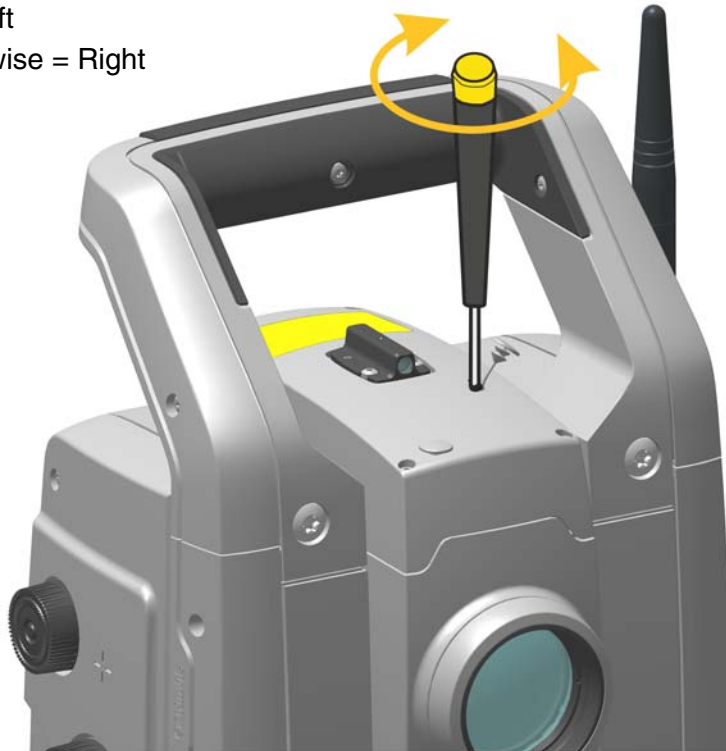

Figure 4.7 Laser pointer Horizontal position adjustment
3. To correct the horizontal position of the laser spot, insert the Allen key into the horizontal adjustment port and turn it as shown in Figure 4.7.